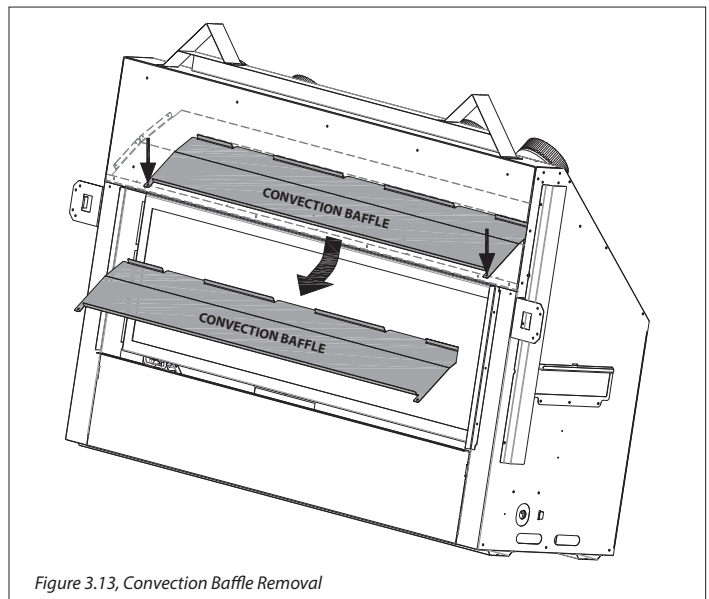

Figure 3.13, Convection Baffle Removal
4. Remove the convection baffle from the appliance. The baffle is secured by (2) screws right behind the upper edge of the fireplace opening. See Figure 3.13. Recycle this panel if it is no longer needed.